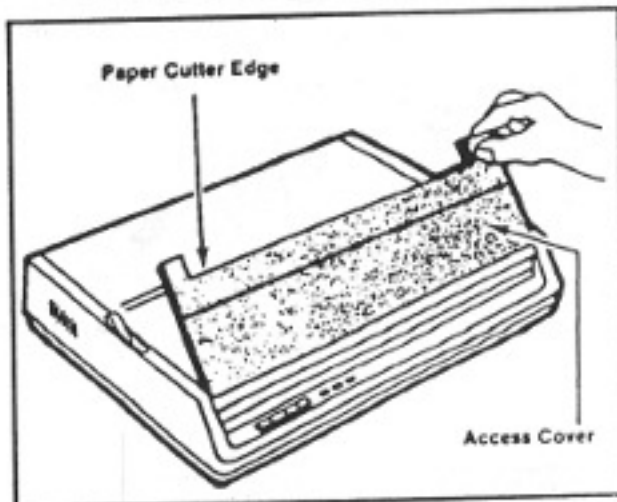

FIGURE 55. Access Cover Removal.
2. Remove the printer access cover (Figure 55) by lifting it off.